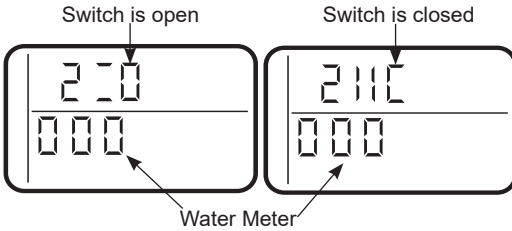

Figure 18
1. Press and hold **MODE/SET** for 3 seconds until the Set low salt alarm display appears, next press the **MODE/SET** button two additional times until “000” shows in the display, then release, see Figure 18.
3. Symbols in the display indicate POSITION switch operation, (see Figure 18).